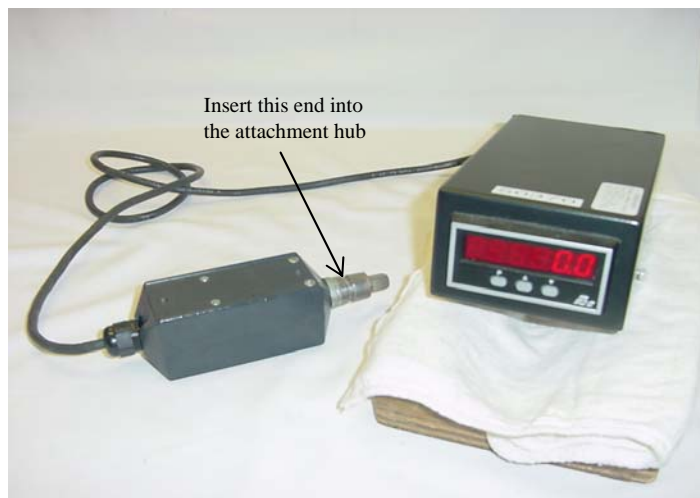

Fig. 80 Electronic speed measuring device, with numerical display for setting speeds on KitchenAid mixers .
G. A digital speed device (Fig. 80) is available to adjust the planetary speed settings on all KitchenAid mixers.